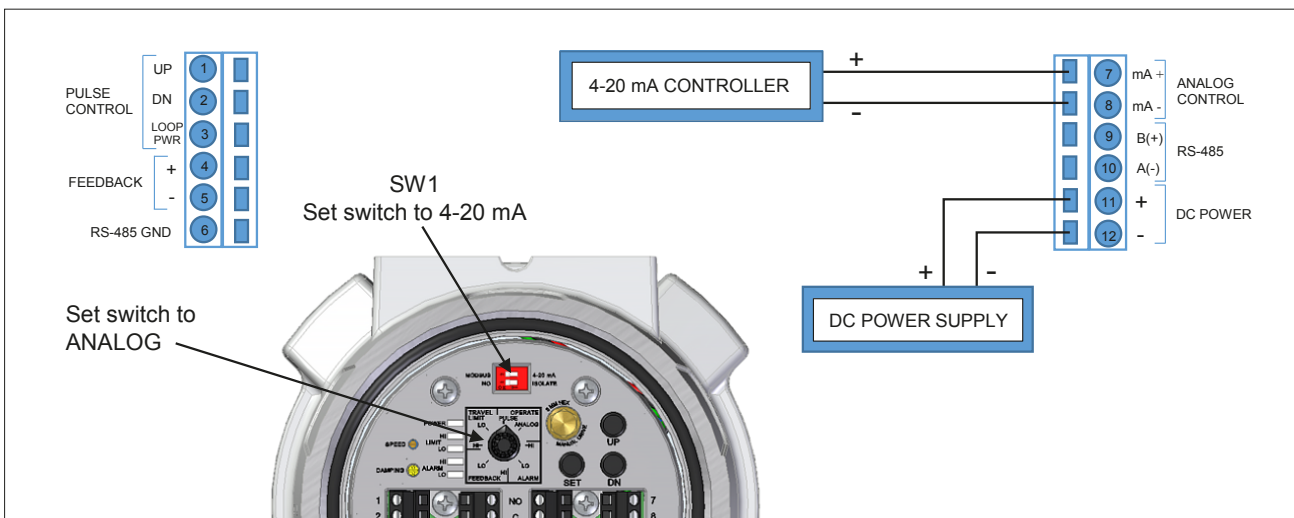

Figure 5 4-20 mA analog control
- 2.1 Connect a 4-20 mA signal source to the Analog Control input terminals. (See *Figure 5*.)